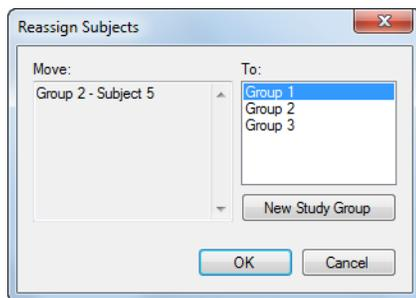

Figure 5-6.Reassign Subjects Window
2. Click the **Reassign Subject** button on the toolbar or right-click on the subject and select **Reassign**. The Reassign Subjects window opens as shown in Figure 5-6.